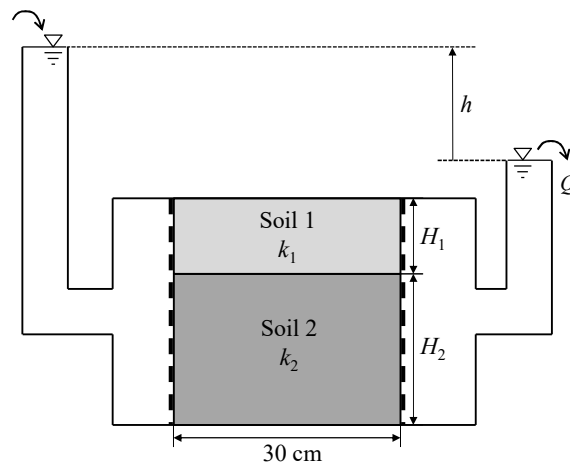

Figure 2-1
(1) A permeability test was conducted in the horizontal direction on a specimen consisting of two layers of different soils: Soil 1 (thickness H_1 [cm], coefficient of permeability k_1 [cm/s]) and Soil 2 (thickness H_2 [cm], coefficient of permeability k_2 [cm/s]) (see Figure 2-1). Answer the following questions. Note that the boundary between the layers is horizontal, and unit depth (perpendicular to the page) is considered in all questions.